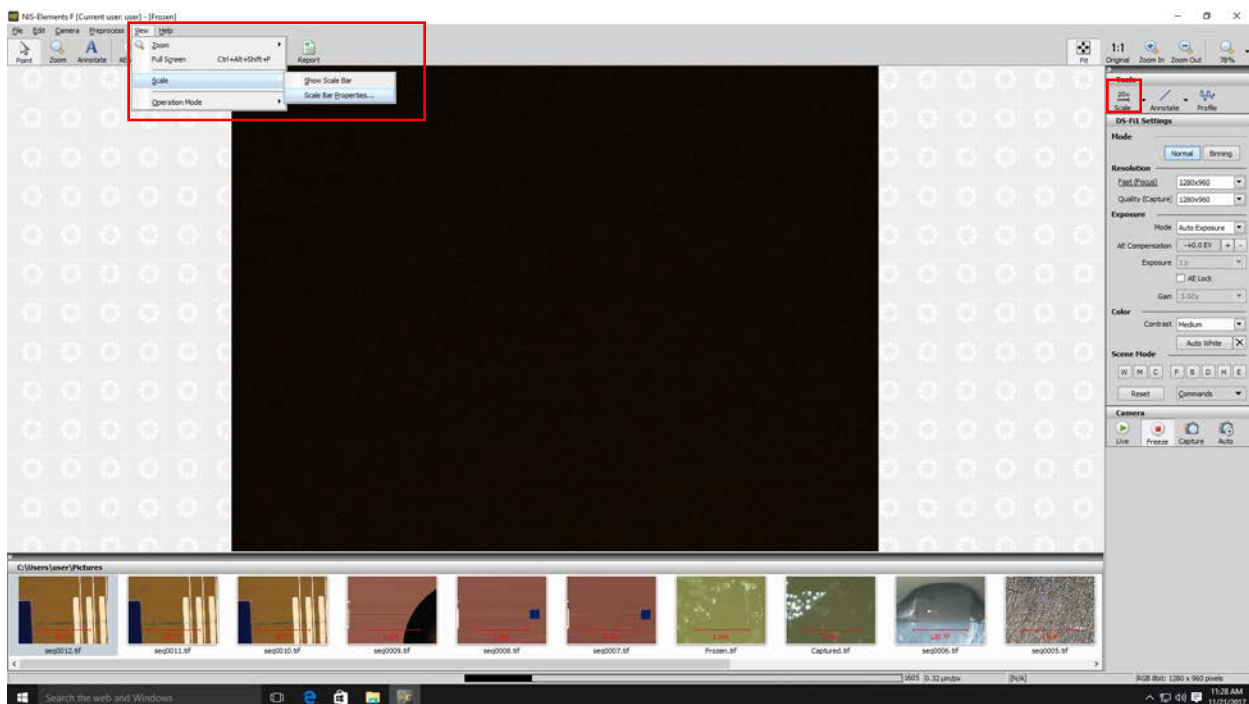

Figure 9: Change the properties of the scale bar.
- 9) The scale bar can be dragged and placed anywhere on the image. To change other properties of the scale bar, go to View -> Scale -> Scale bar properties (Figure 9).